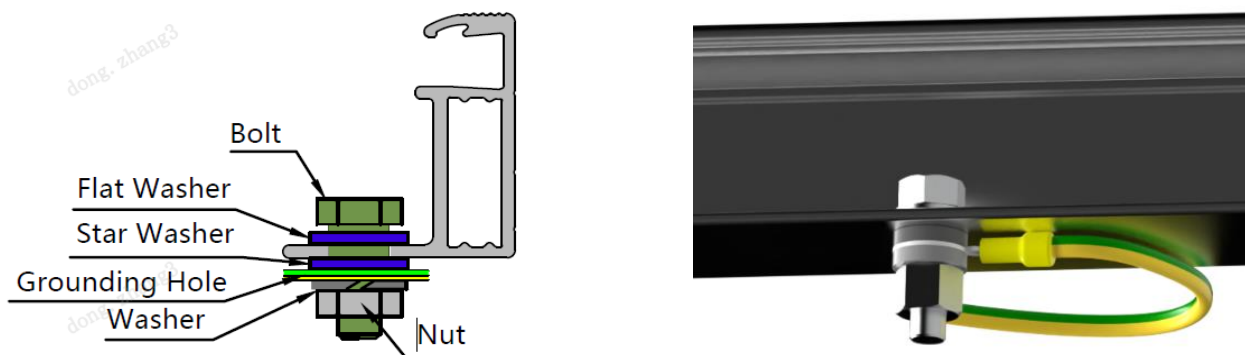

Fig. 11 Grounding of PV modules
- i) JinkoSolar recommends two types of grounding: bolted grounding, shown in Figure 11, and clamp grounding. The bolts should be tightened when grounding is installed and no damage should be done to the module frame or the grounding wire.